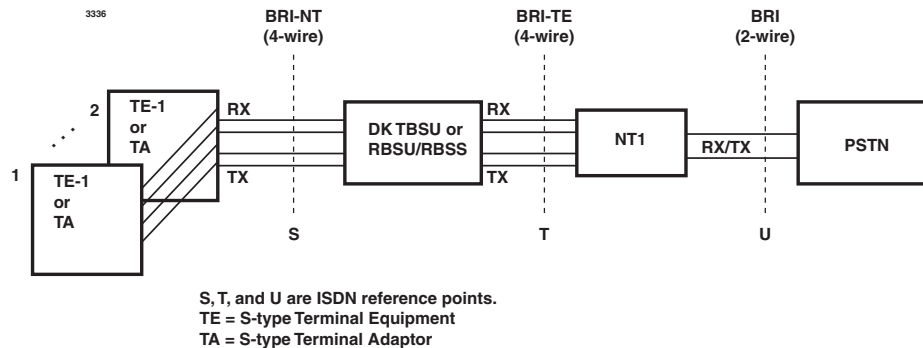

Figure 7-9 RBSU/RBSS Interfaces between the S/T Reference Points
The RBSU circuits are four-wire S/T type circuits and connect to the Public Switched Telephone Network (PSTN) BRI lines using an Network Terminator unit (NT1); or, on the station side, they can connect to ISDN Terminal Equipment (TE) or Terminal Adapters (TA) as shown in Figure 7-9.